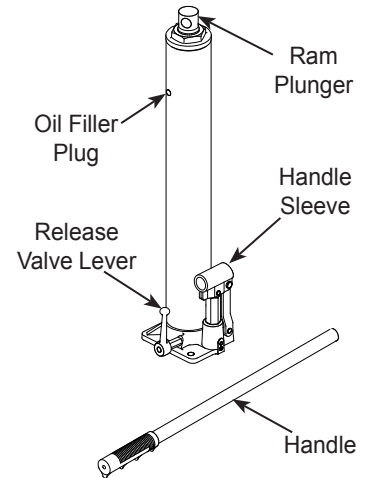

Figure 3 - Hydraulic Unit/ Ram
2. Assemble Swivel Casters Qty (4). Items: Caster Bracket (1), Wheel (2), Bolt (3), Pipe (4), Spring Washer (5), & Nut (6), tighten bolts.
3. Attach swivel caster assemblies to Rear Leg Extensions (7) and Front Leg Extensions (8) using Bolt (9) & Spring Washer (5), tighten bolts.
4. Slide Front Extension tubes & Rear Extension tubes, with Casters, into Base (10), secure with Bolts (11) into base, tighten bolts. Casters should rest on floor.
5. Place Post Assy (12) on the Base (10) and secure with Bolts (11). Leave bolts finger tight.
6. Attach Braces (13) on each side of upright at top and secure with Bolt & Nut (14 & 15). Place bottom of braces to inside of base, and secure with bolts & nuts (16 & 15). Tighten all bolts. Tighten Bolts (11) that were left finger tight.
7. Attach Power Unit Bracket (17) to Power Unit (18) with Bolts, Washers & Nuts (19, 20 & 21). Then attach the assembly to upright mounting ears using bolt & nut (22, 28 & 23).
8. Place Boom (24) on top of Post Assy (12) and secure with Bolt & Nut (25 & 26). Turn Power Unit Release Valve lever clockwise to close (Figure 3). Pump Power Unit using Handle (27) until ram extends approximately 2". Place boom mounting bracket on top of ram and secure with Bolt & Nut (28 & 23).
9. Slide Boom Extension (29) into the Boom (24), ensure the slot for chain faces down and secure with Bolt & Nut (28 & 23) in correct hole on boom for your particular job. Four positions available: 1/2 Ton, 1 Ton, 1 1/2 Ton And 2 Ton.
10. Slide Chain And Hook (30) through slot in lower front of Boom Extension (29) and secure with Bolt & Nut (31 & 15) as shown.
11. Attach Nylon Strap Assembly (32) to Base (10) with Bolt (33).